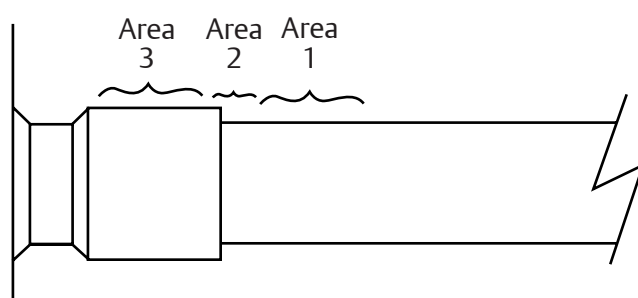

Figure 1. Scroll tube brazing
5. Apply heat in Area 1. As tube approaches brazing temperature, move torch flame to Area 2 (See Figure 1).
4. Heat tube uniformly in Area 1, moving slowly to Area 2. When joint reaches brazing temperature apply brazing material (See Figure 1).